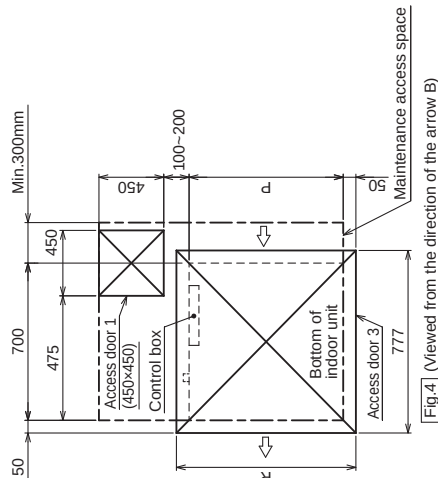

Fig.4 (Viewed from the direction of the arrow B)
- Create access door 1 diagonally below the control box and access door 3 below the unit as shown in Fig.4.
[Fig.4] (Viewed from the direction of the arrow B)